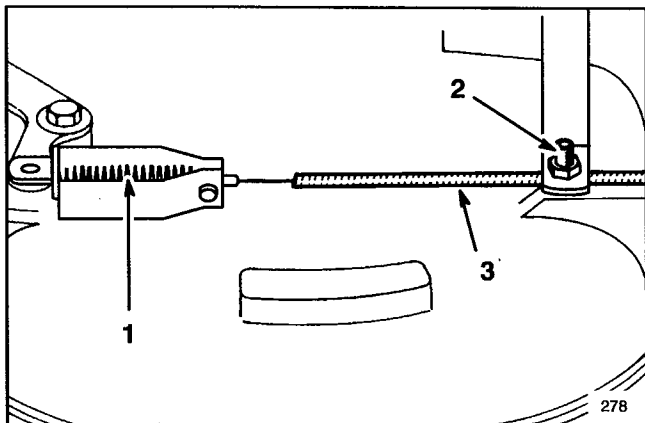

Figure 30
2. Loosen cable clamp screw until brake cable conduit slides (Fig. 30). Pull cable to remove slack, but do not put tension on spring. Tighten screw to lock adjustment in place.